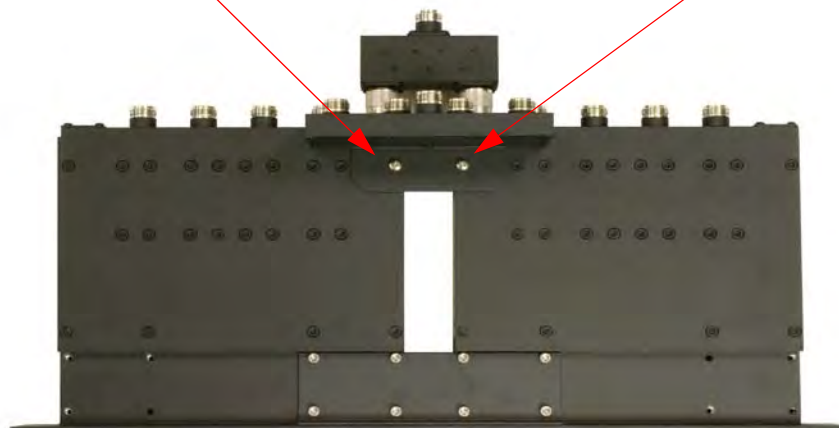

Figure A5: Installing the 4-way Splitter/Combiner.
- 2) Install the 4-way splitter/combiner (see **Figure A4**) to the bottom of the 8 channel deck by removing two screws one from each 4 channel assembly as shown in **Figure A5**). Install the 4-way as shown in figure A5 using two longer screws (8-32 x 3/4") supplied with the kit.